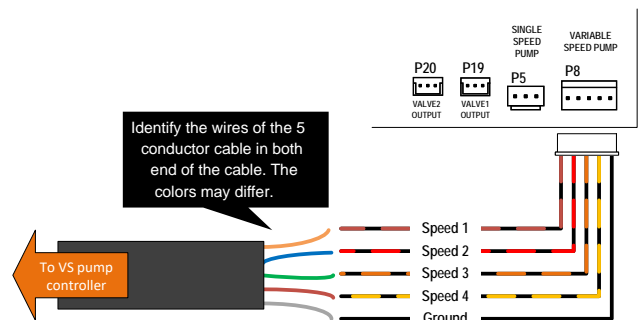

Figure 140. 5-Conductor Cable Wiring
2. Inside the heater's control box, use the harness adapter labeled "Pump speed selector" that comes with the accessories bag to connect the 5-conductor cable to the control board terminal labeled "VAR PUMP" [P8]. The adapter can supply 4 digital outputs at 30VDC and a ground signal. Make sure to identify the wires in both ends of the 5-conductor cable. Refer to Figure 140 for guidance.